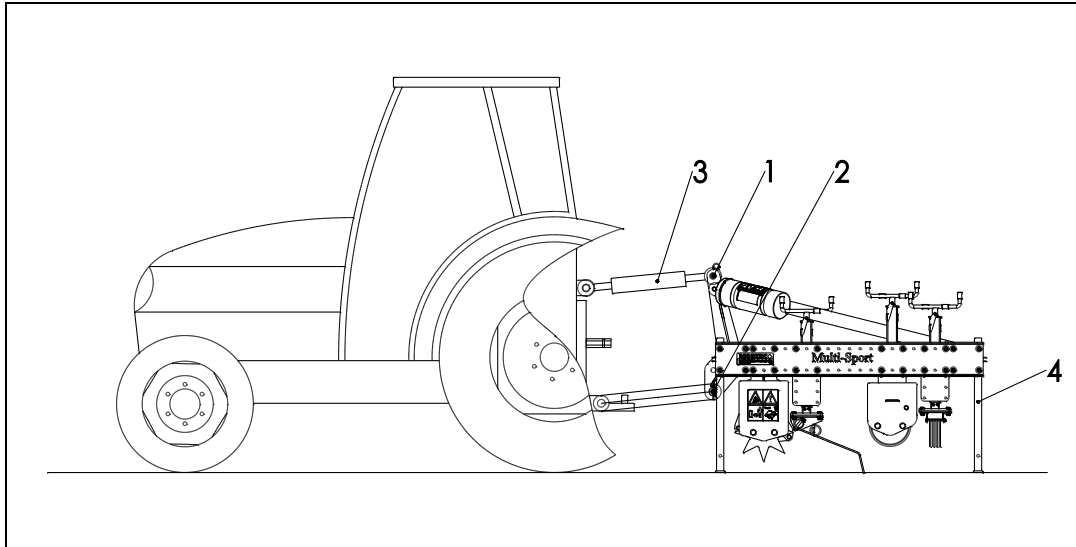

Figure 8
The procedure is as follows (see Figure 8):
3. Turn the top rod (3) so that the machine stands perpendicular to the subsoil (see Figure 8).